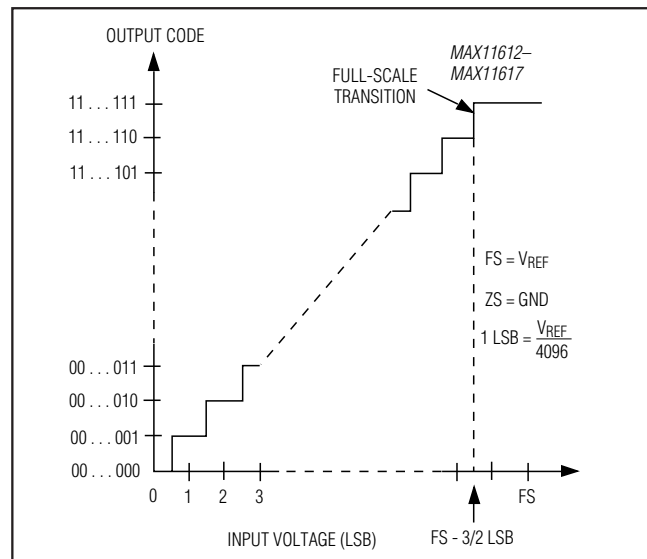

Figure 12. Unipolar Transfer Function
Output data coding for the MAX11612–MAX11617 is binary in unipolar mode and two's complement in bipolar mode with  $1 \text{ LSB} = (V_{\text{REF}}/2N)$  where  $N$  is the number of bits (12). Code transitions occur halfway between successive-integer LSB values. Figures 12 and 13 show the input/output (I/O) transfer functions for unipolar and bipolar operations, respectively.